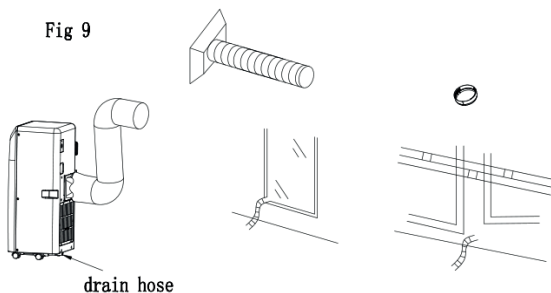

Fig 9
- 3) As shown in Fig. 9, connect drain hose well (only for using heating model);
- If water splash motor is damaged, continuous drainage can be used. To connect the drain hose to the bottom drain hole (fig.9), the unit can also work well.
2. Insert the square fixing clip into openings at back of the air conditioner (see Fig.9).